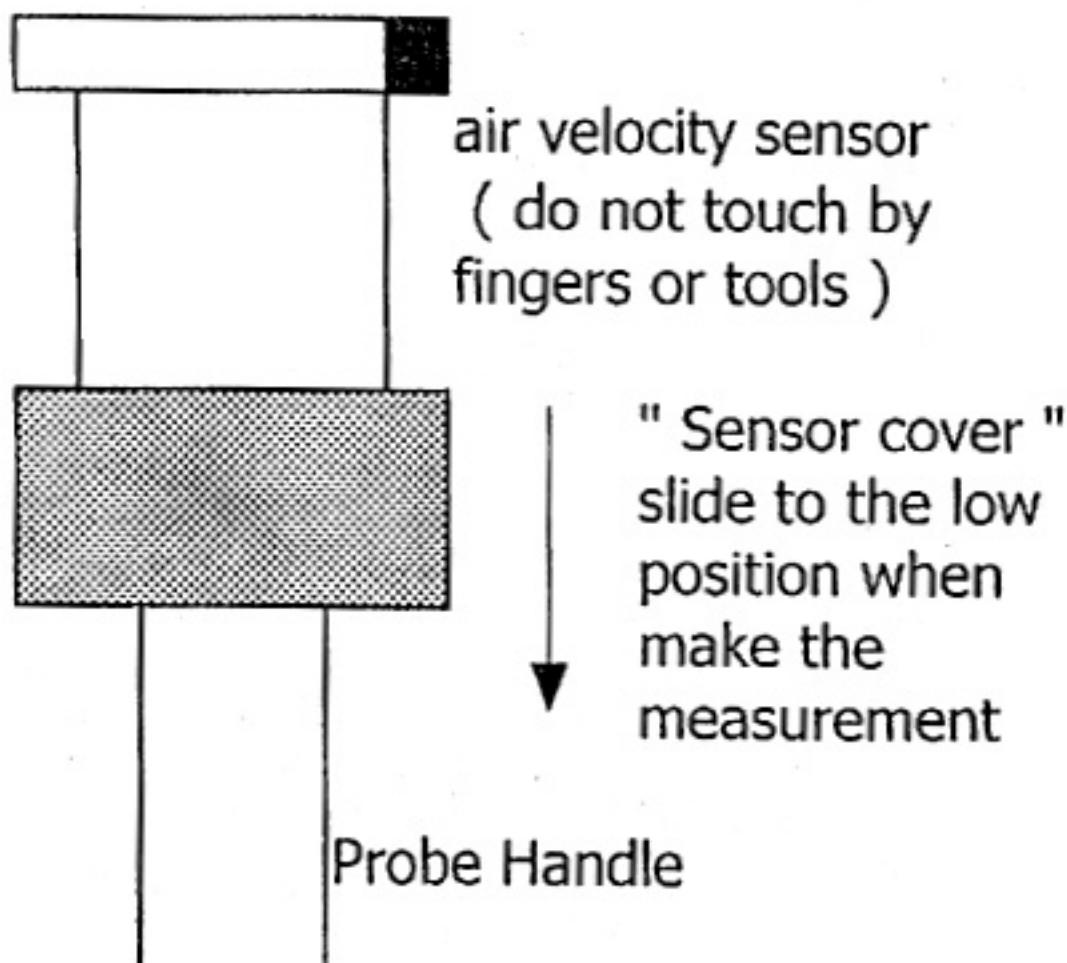

Fig. 3
- Slide the sensor cover to the down position, let the air velocity sensor to contact the air, refer Fig. 3.
- Extent the telescope probe to the convenient length ,refer Fig. 3